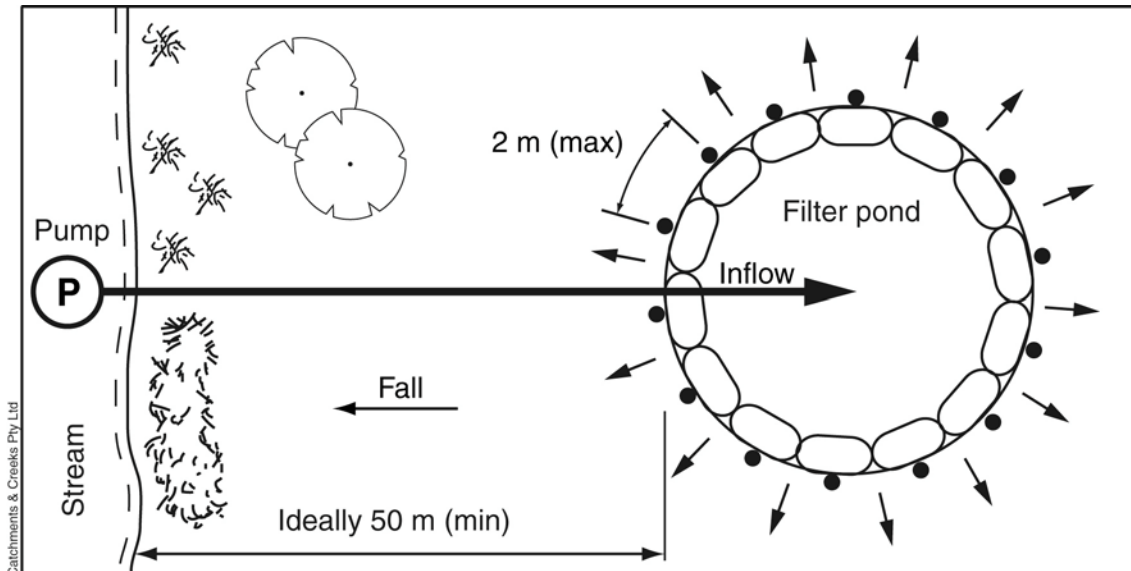

Figure 2 – Ideal placement of filter pond away for the edge of a watercourse
- at least 50m from a watercourse (Figure 2).